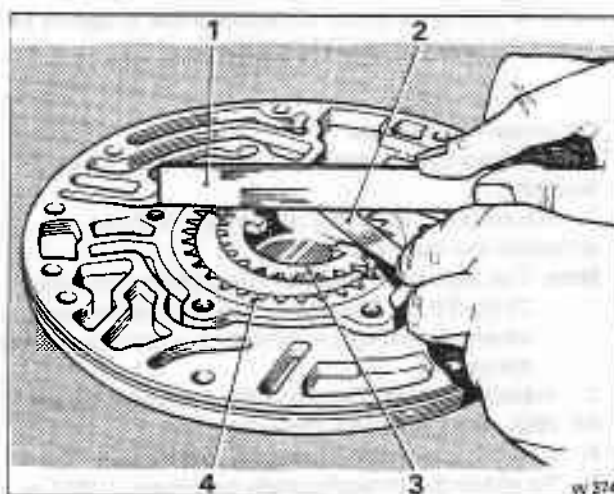

Fig. T17-4 Checking the gear end clearance
3. Fit the gears into the pump body, then check the end clearance as shown in figure T17-4. The clearance should be between 0,02 mm and 0,09 mm (0.0008 in and 0.0035 in).